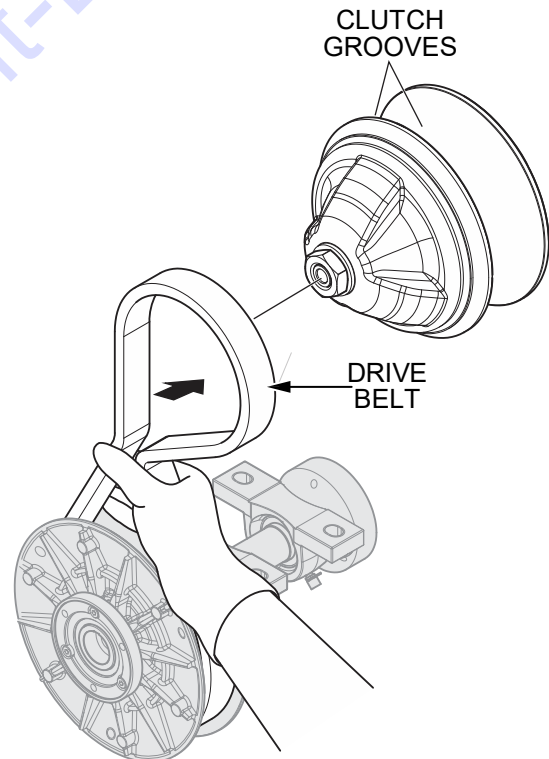

Figure 36. Spare Drive Belt Placement (Clutch)
6. Place the spare drive belt onto the clutch as shown in Figure 36.